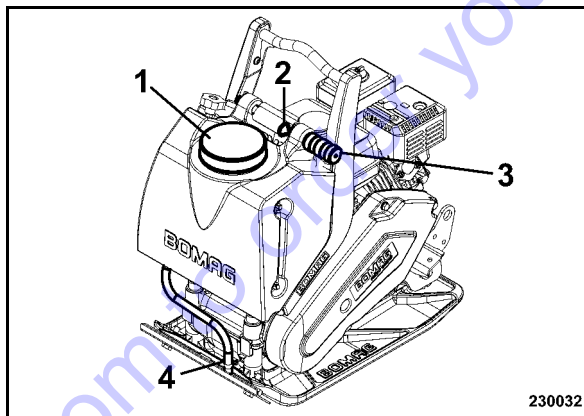

Fig. 43
- Open the water tank cover (1) (Fig. 43) and fill in clean water.